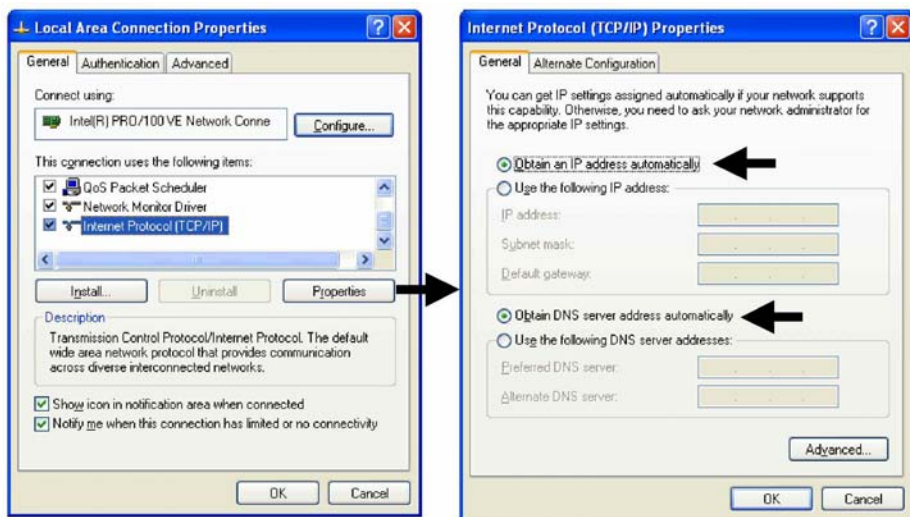

Figure 4. Displaying the Internet Properties (TCP/IP) Properties window
3. Double-click on *Local Area Connection* and click on **Properties** to open the *Internet Protocol (TCP/IP) Properties* window (see figure 4).